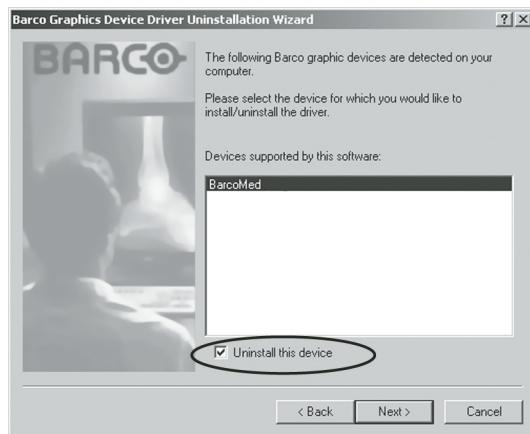

Figure 52
5. On the next screen (figure 52), **check** the checkbox next to "Uninstall this device" and click "**Next**" to continue.